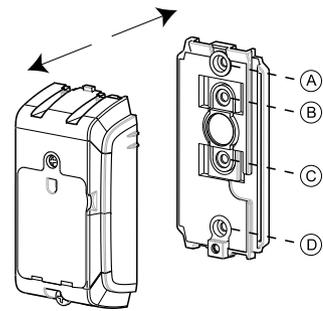
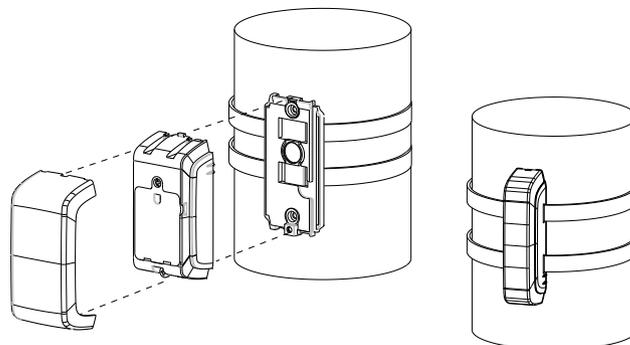

Figure 6: Device and bracket separation
Figure 8: Curved surface mounting
**Attention:** Some MC-312 PG2 models have a back tamper switch behind the device. See Figure 3. Ensure the device is seated firmly within the bracket at all times so that the switch lever presses against a special break-away bracket segment that is loosely connected to the bracket. Ensure the break-away segment of the bracket is fastened securely to the wall (holes B and C in Figure 6). If the detector unit is forcibly removed from the wall, this segment will break away from the bracket, causing the tamper switch to open.
3. Separate the device from the bracket. See Figure 6.
**Note:** Use both the uppermost and lowermost hole (A and D in Figure 6) in the device bracket for standard mounting. Add both middle holes (B and C in Figure 6) for tamper protection.
7. Mount the magnet base with two supplied screws to an adjacent surface and attach the magnet to the magnet bracket. See Figure 6.
- When mounting the device on a curved surface, follow steps 1 to 3 in 3.3 *Mounting the MC-312 PG2* and then insert the straps through the slots in the device and magnet brackets (see Figure 8) and fasten both straps around the curved surface. To avail of the back tamper feature, use both middle holes in the device bracket (B and C in Figure 6) when you drill and screw into the mounting surface.